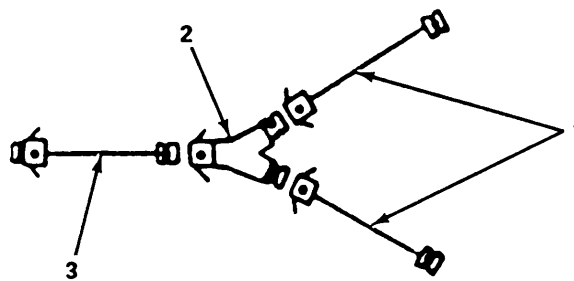

Figure 4-12. Wye Fitting Assembly, Removal/installation.
b. Replace. (figure 4-12)
(1) Removal.